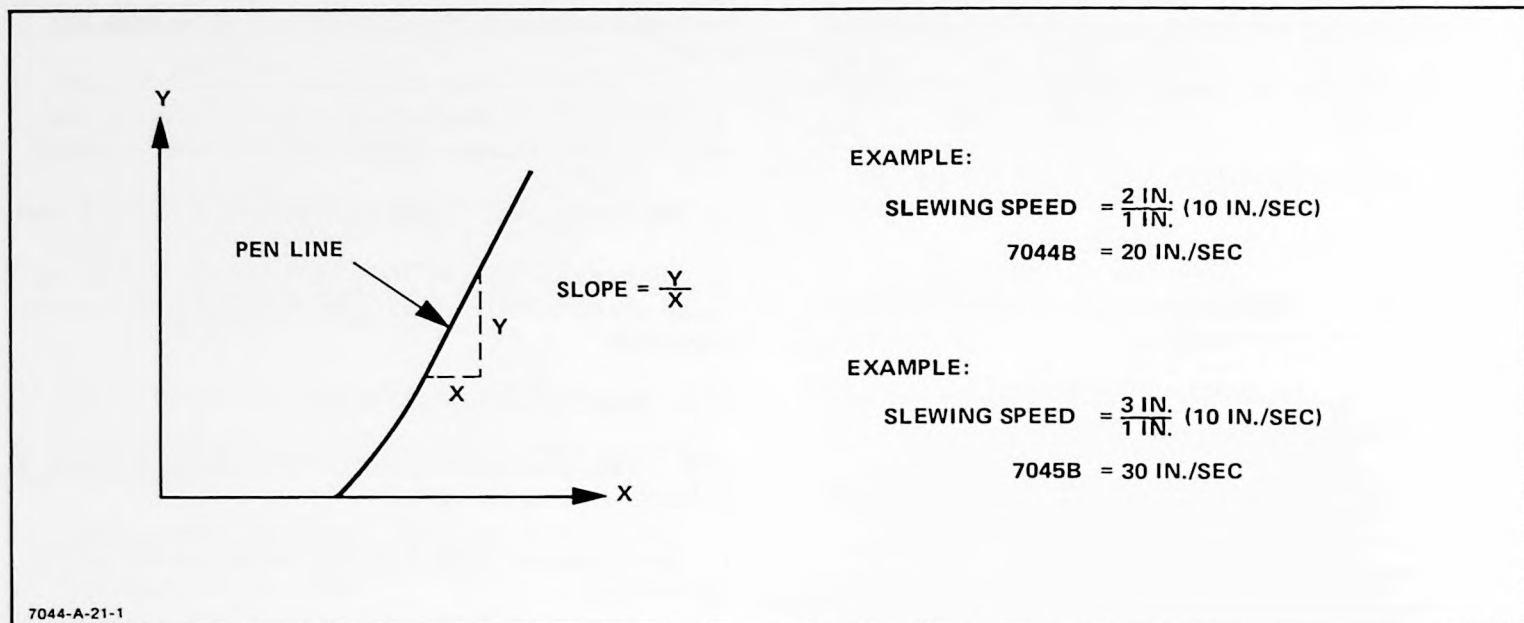

Figure 5-13. Y-Axis Slewing Speed — 7044B and 7045B Models
f. At center of X-axis travel, close S1 switch. After pen has slewed to full scale, position SERVO toggle switch to STANDBY. Plot in Figure 5-13 indicates pen moves greater